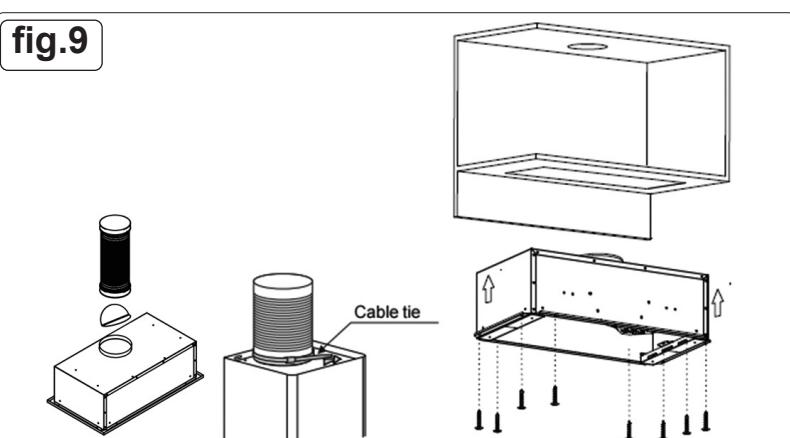

fig.9
- Install the hood to the cupboard with the screws. See fig.9.